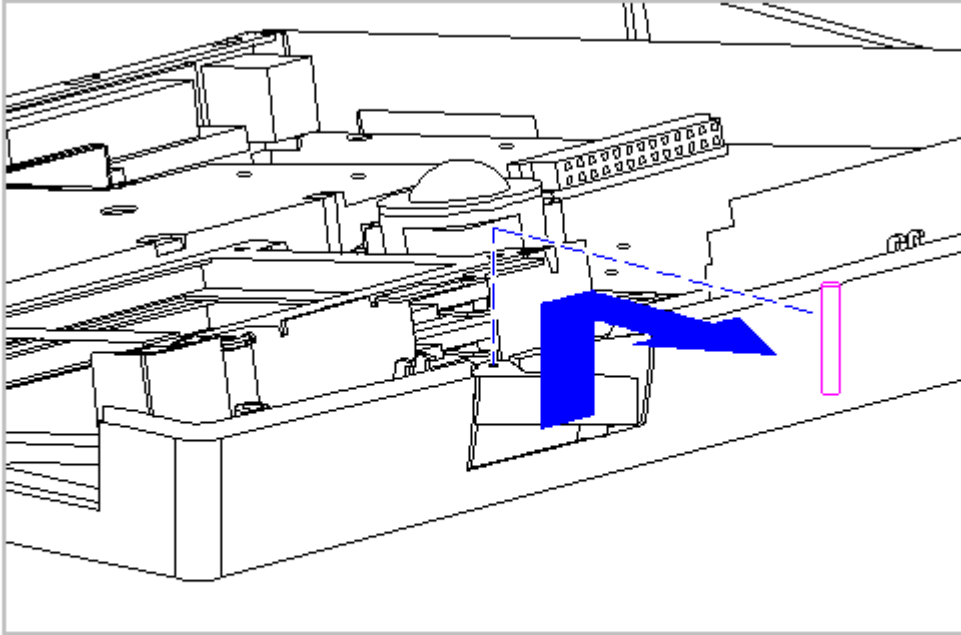

Figure 5-55. Remove the PC Card Ejection Lever Pin
3. Remove the PC Card ejection lever pin from the system chassis (Figure 5-55).